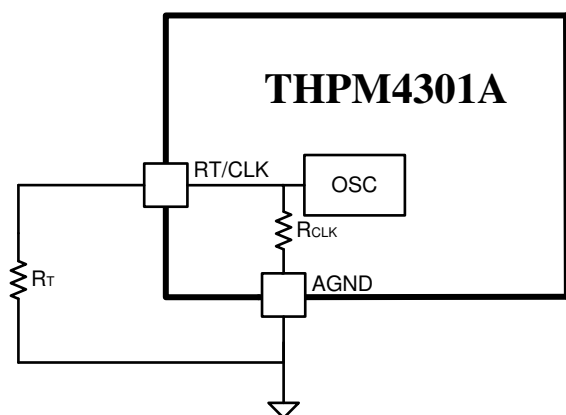
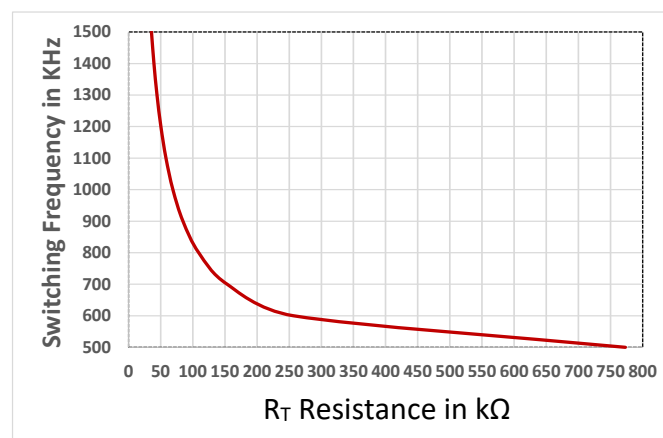

Fig. 33 Switching Frequency Adjustment
Fig. 34 Switching Frequency vs R_T for THPM4301A
The user can increase the switching frequency by adding an external resistor, R_T , between RT/CLK pin and AGND, as shown in Fig. 33, where R_T is calculated using Equation (9). The relationship between switching frequency and R_T resistor value is shown in Fig. 34.